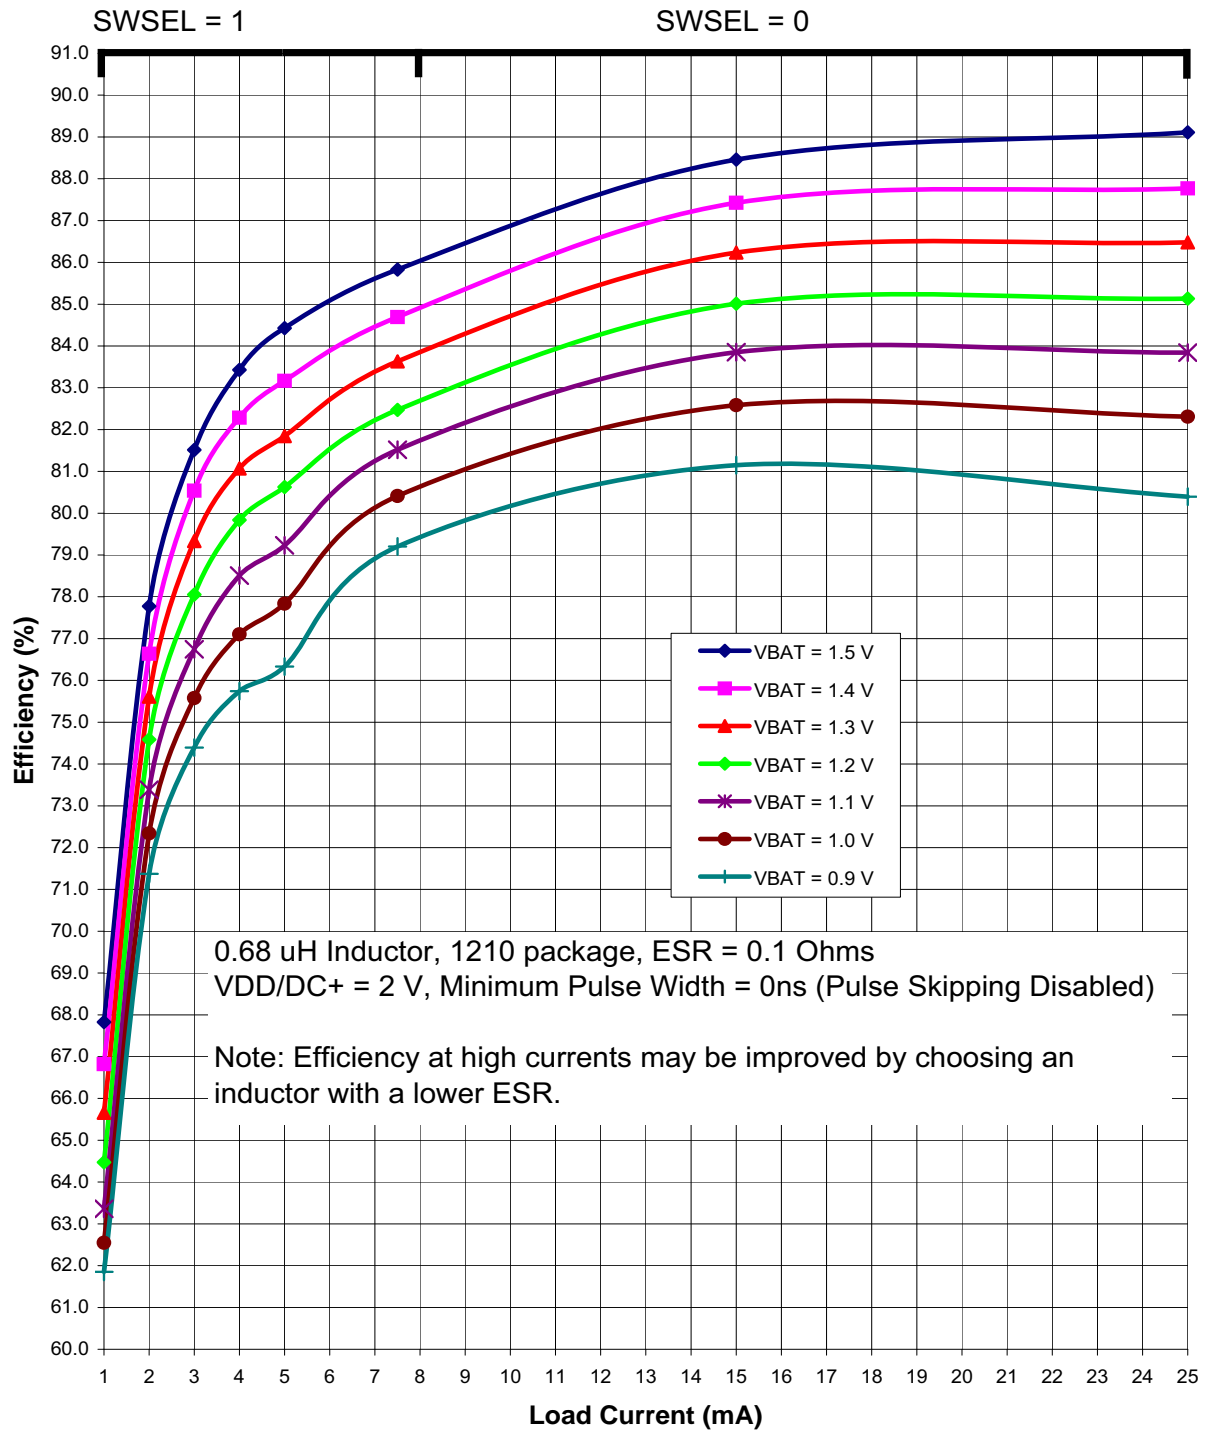
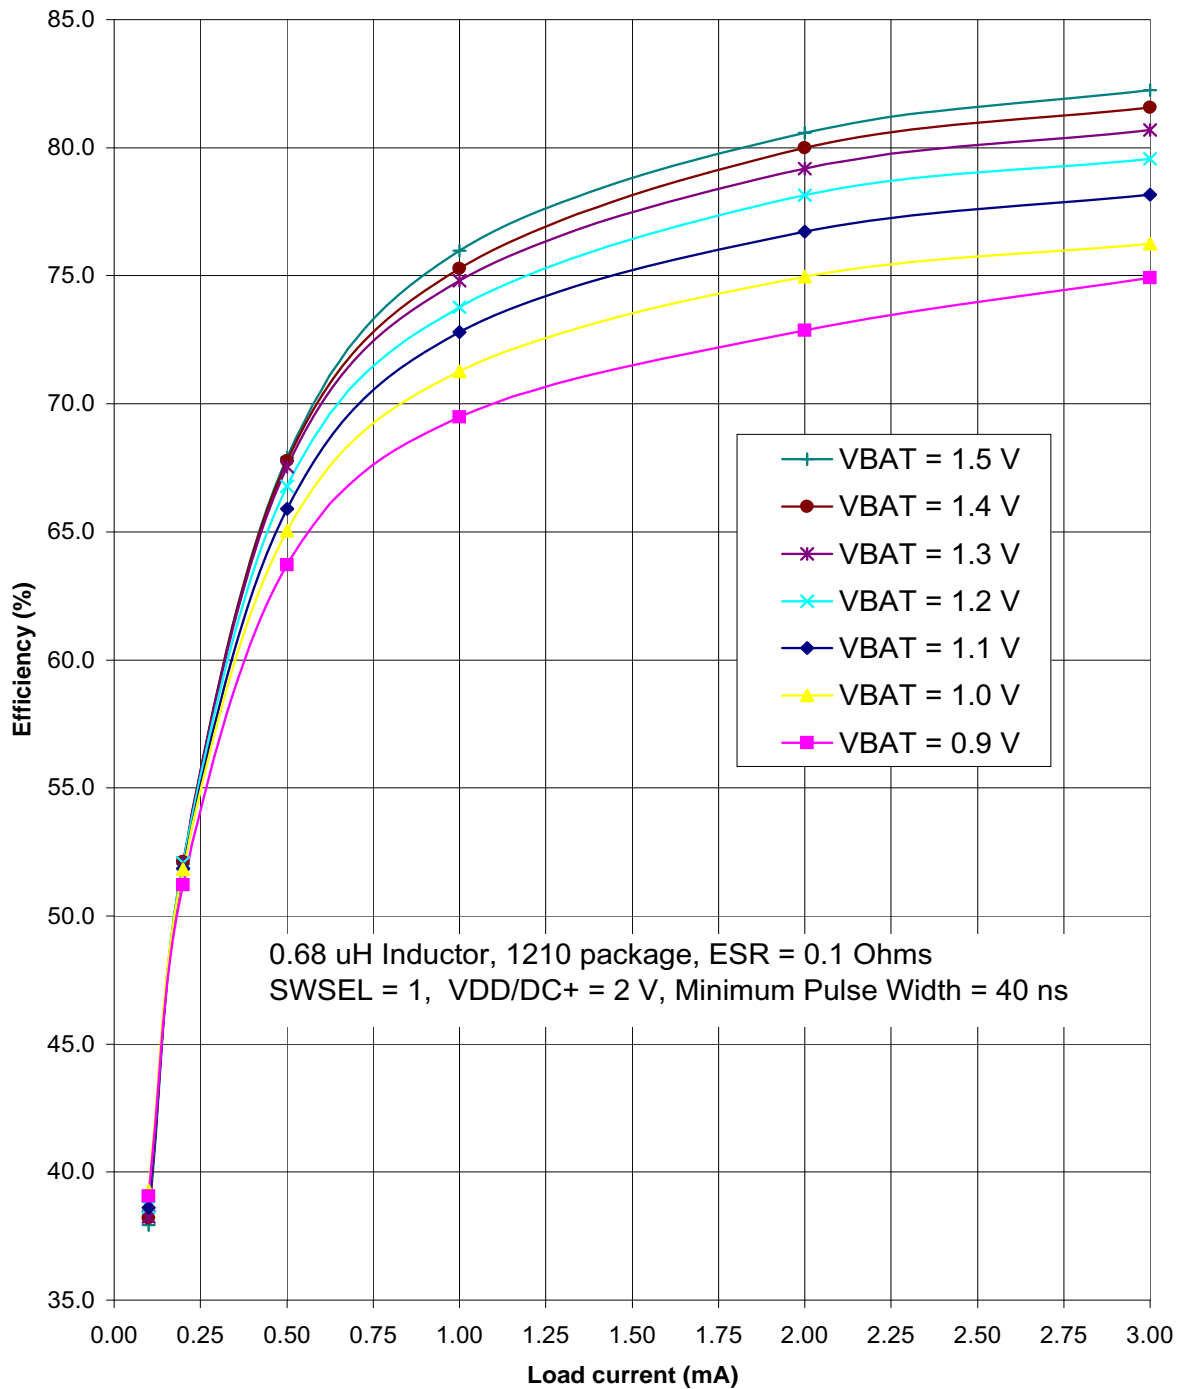

Figure 4.3. Typical DC-DC Converter Efficiency (High Current, VDD/DC+ = 2 V)
Figure 4.5. Typical DC-DC Converter Efficiency (Low Current, VDD/DC+ = 2 V)
<ol style="list-style-type: none"> Based on device characterization data; Not production tested. SYSCLK must be at least 32 kHz to enable debugging. Digital Supply Current depends upon the particular code being executed. The values in this table are obtained with the CPU executing an "sjmp \$" loop, which is the compiled form of a while(1) loop in C. One iteration requires 3 CPU clock cycles, and the Flash memory is read on each cycle. The supply current will vary slightly based on the physical location of the sjmp instruction and the number of Flash address lines that toggle as a result. In the worst case, current can increase by up to 30% if the sjmp loop straddles a 64-byte Flash address boundary (e.g., 0x007F to 0x0080). Real-world code with larger loops and longer linear sequences will have few transitions across the 64-byte address boundaries. Includes oscillator and regulator supply current. IDD can be estimated for frequencies ≤ 14 MHz by simply multiplying the frequency of interest by the frequency sensitivity number for that range, then adding an offset of 90 μA. When using these numbers to estimate I_{DD} for >14 MHz, the estimate should be the current at 25 MHz minus the difference in current indicated by the frequency sensitivity number. For example: $V_{DD} = 3.0$ V; $F = 20$ MHz, $I_{DD} = 4$ mA – $(25 \text{ MHz} - 20 \text{ MHz}) \times 0.102 \text{ mA/MHz} = 3.5$ mA assuming the same oscillator setting. The supply current specifications in Table 4.2 are for two cell mode. The VBAT current in one-cell mode can be estimated using the following equation: $\text{VBAT Current (one-cell mode)} = \frac{\text{Supply Voltage} \times \text{Supply Current (two-cell mode)}}{\text{DC-DC Converter Efficiency} \times \text{VBAT Voltage}}$ <p>The VBAT Voltage is the voltage at the VBAT pin, typically 0.9 to 1.8 V. The Supply Current (two-cell mode) is the data sheet specification for supply current. The Supply Voltage is the voltage at the VDD/DC+ pin, typically 1.8 to 3.3 V (default = 1.9 V). The DC-DC Converter Efficiency can be estimated using Figure 4.3–Figure 4.5.</p> Idle IDD can be estimated by taking the current at 25 MHz minus the difference in current indicated by the frequency sensitivity number. For example: $V_{DD} = 3.0$ V; $F = 5$ MHz, Idle $I_{DD} = 2.1$ mA – $(25 \text{ MHz} - 5 \text{ MHz}) \times 0.079 \text{ mA/MHz} = 0.52$ mA.